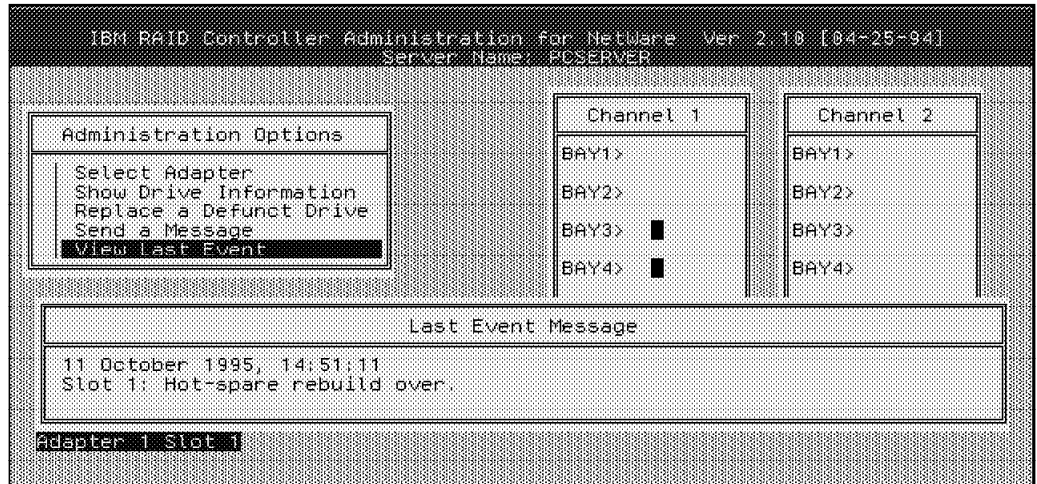

Figure 121. RAID Administration - Recovery Message
5. At the end of the rebuild process, the RAID Administration for NetWare Utility sends a message. This message is shown in Figure 121 on page 157.